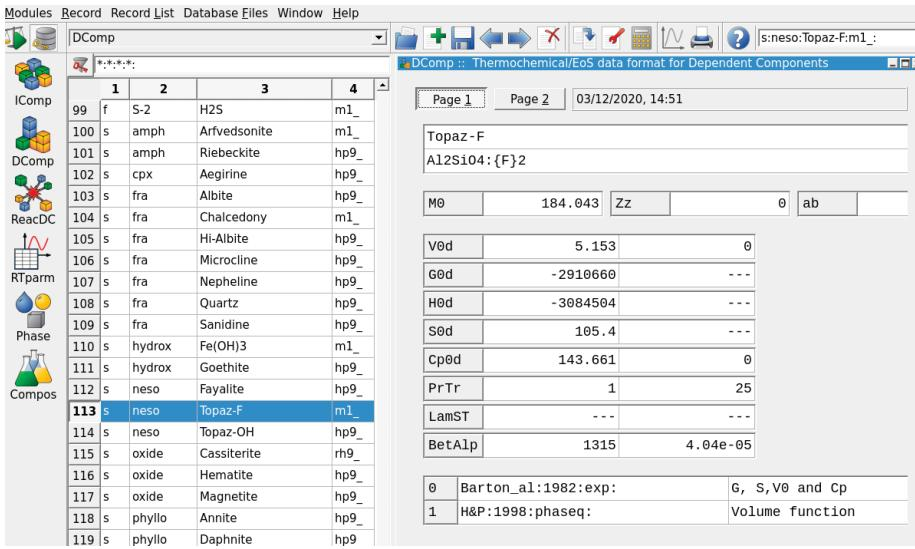

Figure 3.9: Thermodynamic database mode showing DComp records and input fields for Topaz-F.
- Topaz is a common mineral found in Greisen. Here we only have the hydroxide (OH) endmember Topaz-OH, in the next section we will see how to add a mineral and aqueous species.
- Switch to the Thermodynamic Database Mode and select in Panel 2 (left side) the option DComp for adding a new mineral phase. Select the records Topaz-OH or Topaz-F and check the inputs. Figure 3.9 shows the Page 1 input tab for Topaz-F. I already added this mineral for you but will briefly explain how to create such a record. Note the heat capacity function (Cp) can be set in the Page 2 tab of this window.
- To inspect the Topaz-F record you can select it and click on the red wrench next to the calculator on the top Panel 1. There you can explore different model options and come back to the main DComp window (Fig. 3.9).